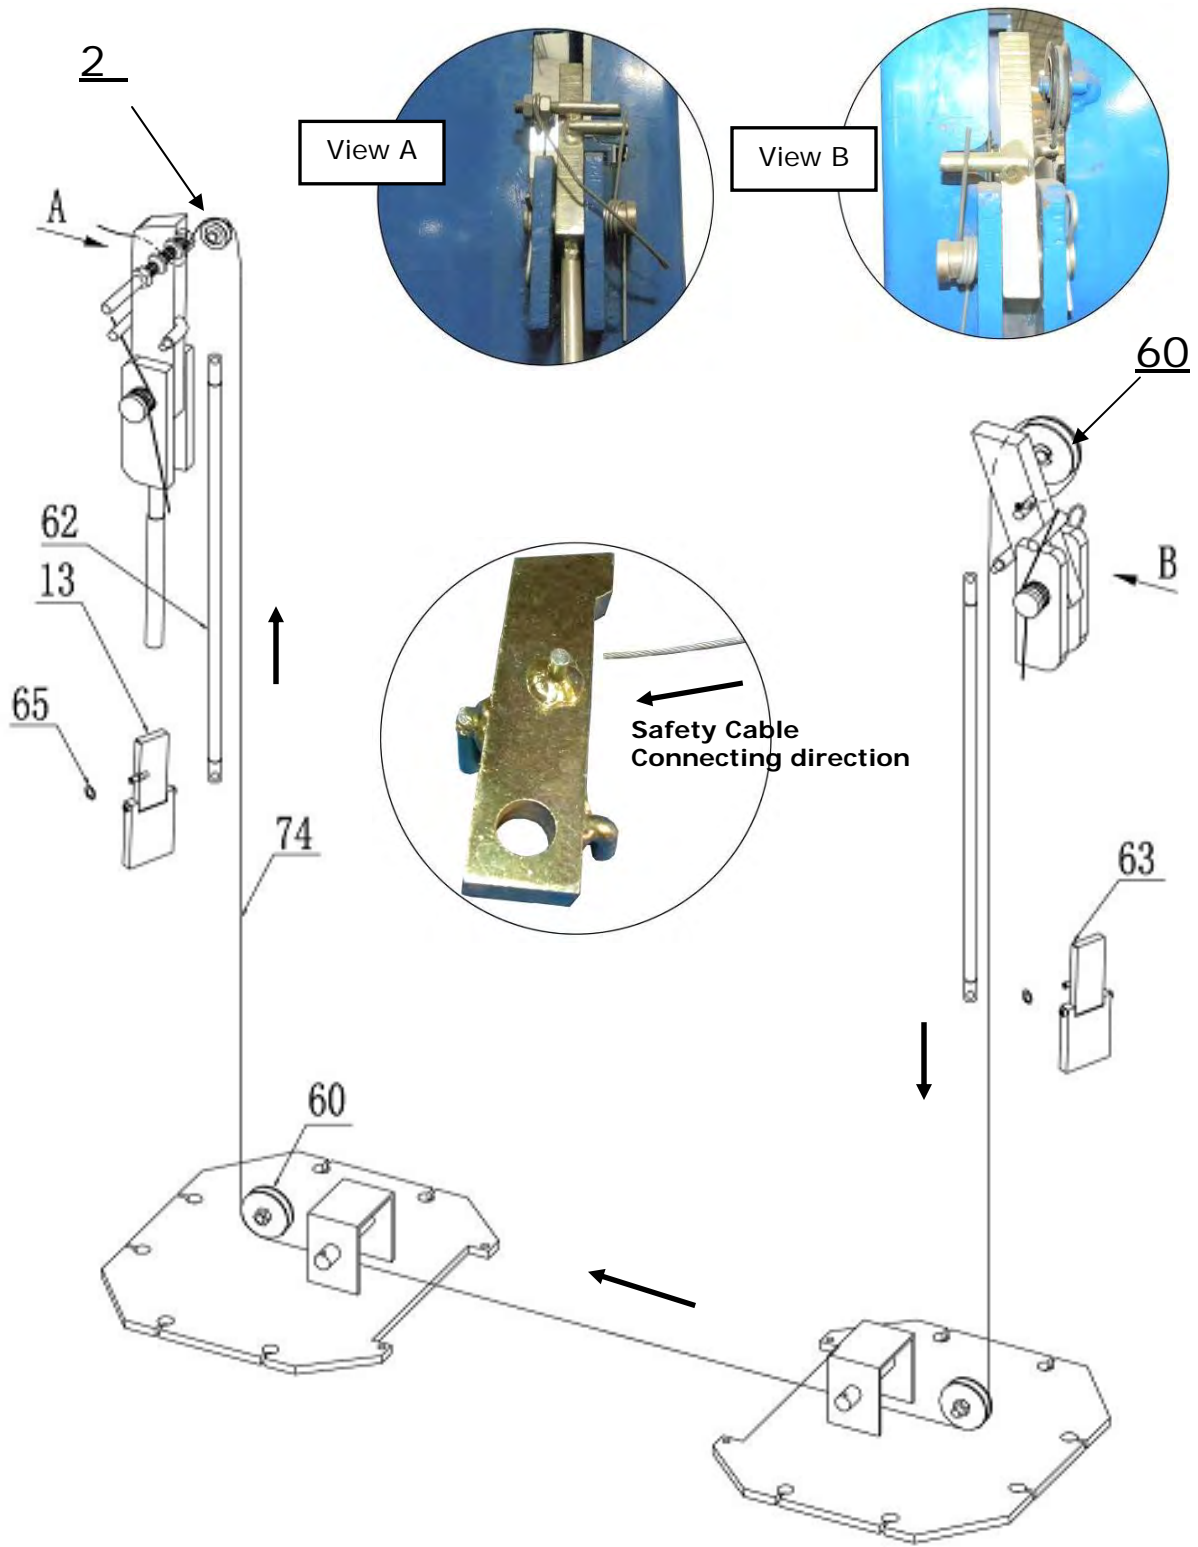

Fig. 22
L. Install Safety Device and Safety Cable (See Fig. 22).